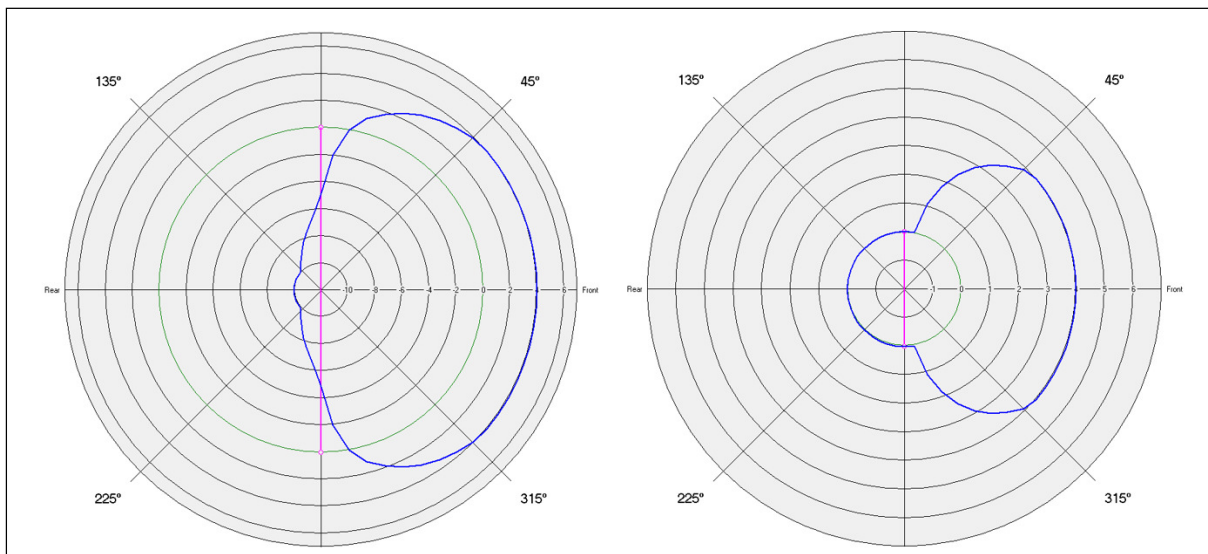

Fig 19 Directivity for openings, left the official DI, right the same but modified to 0 dB towards the backside
4) To avoid the 10 dB 'screening' from the DI in case 3) we have included in our Danish system library a modified version of the two official DI's. The directivity towards the backside of the building is here set = 0, see directivity record #3 and 4. For comparison the DI for openings with and without the 'screening' backwards are shown in Fig 19. Note the scale, otherwise you might misinterpret the figure. This is a pragmatic workaround in models where the calculation result in front of the building is more important than on the backside. In addition, this solution will in most cases give a calculation result behind the building that comes closer to reality, because the screening by the building in general is much bigger than those 10 dB prescribed by the guidelines.